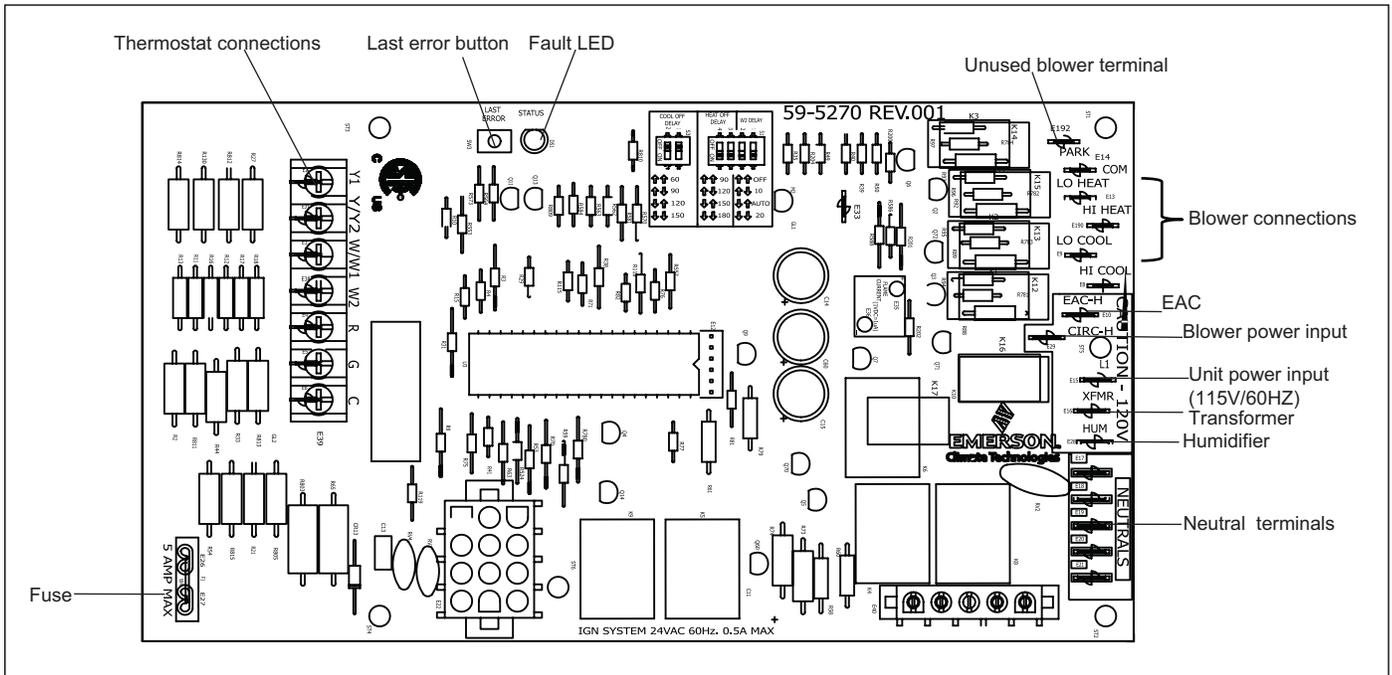
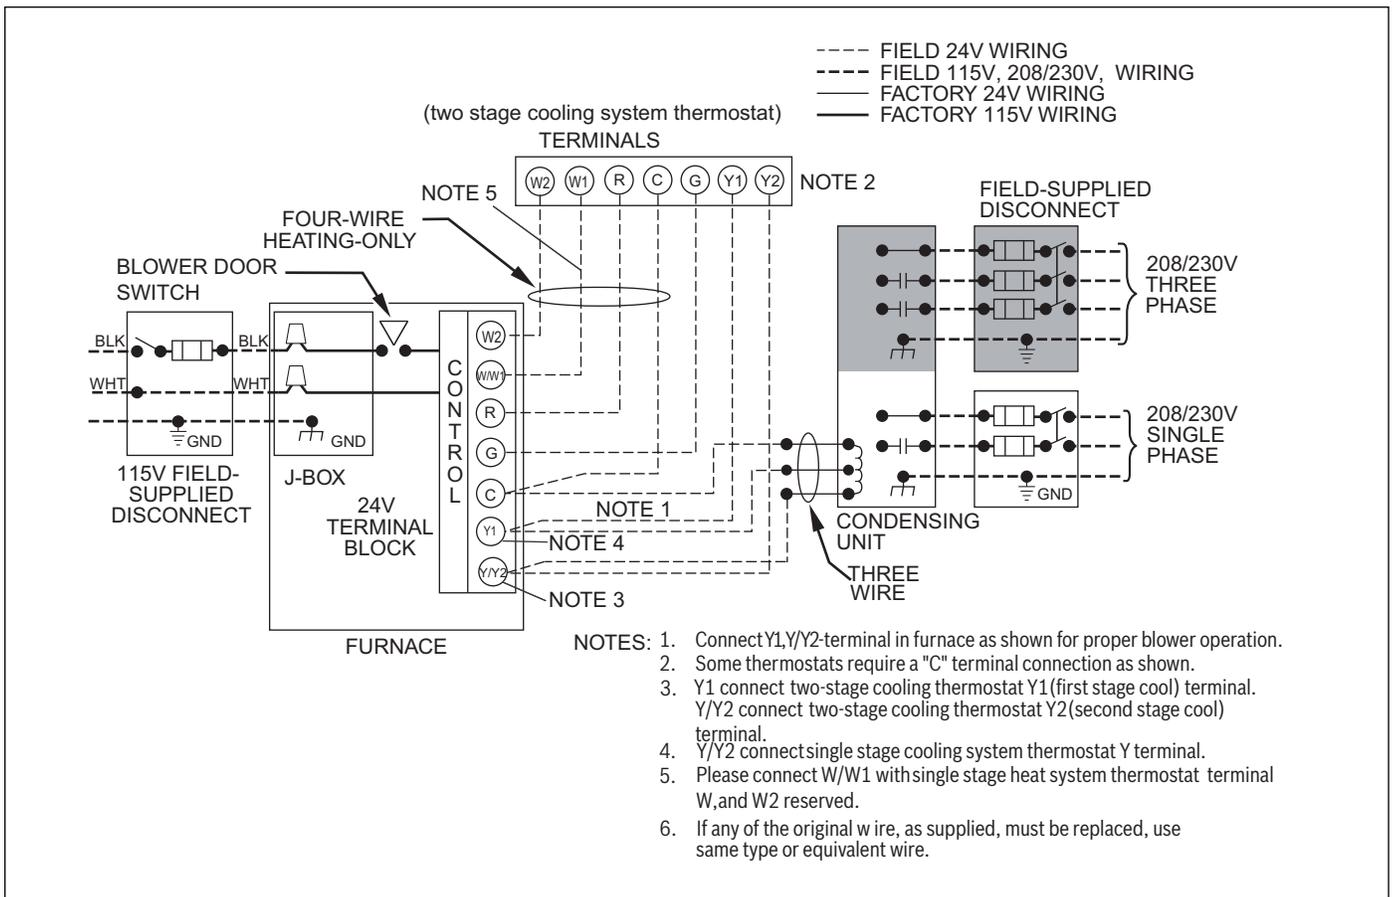

Figure 37 Furnace Control
Figure 38 Heating and Cooling Application Wiring Diagram with 2-Stage Thermostat
5. Connect line voltage leads as shown in Fig. 38.
See Fig. 37 and Fig 38.
12. Complete electrical box wiring and installation. Connect line voltage leads as shown in Fig. 38. Use best practices (NEC in U.S.) for wire bushings, strain relief, etc.
Make field 24V connections at the 24V terminal strip (See Fig. 37.). Connect terminal Y as shown in Fig. 38 for proper cooling operation. Use only 18 AWG, color-coded, copper thermostat wire.
For connection to an Electronic Air Cleaner (if needed), use ¼-inch female quick connect terminals to engage with the two ¼-inch male quick connect terminals on the control board marked EAC-H and EAC-N. The terminals are rated for 115 VAC, 1.0 amps maximum and are energized when blower motor is in operation (see Figure 37).
Connect an accessory 24 VAC 0.5 Amp. maximum humidifier using the ¼-inch male quick connect terminals marked HUM-H and HUM-N, respectively, on the control board. The HUM is energized when gas valve relay is energized (see Figure 37).
1. Maintain 115V wiring and ground. Improper polarity will result in rapid flashing LED and no furnace operation (See Fig. 38).
2. Make thermostat wire connections at the 24-V terminal block on the furnace control. Failure to make proper connections will result in improper operation (See Fig. 38).
Read and follow the wiring diagram (Fig. 38) very carefully.